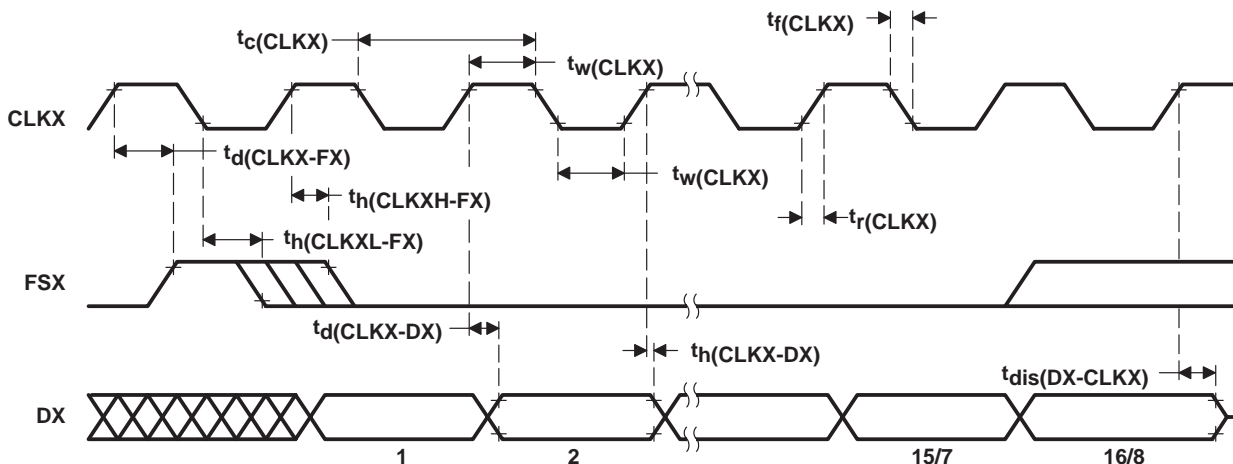

Figure 20. Serial-Port Transmit Timings
**switching characteristics over recommended operating conditions [ $H = 0.5t_{c(CO)}$ ] (see Figure 20)**
timing requirements over recommended ranges of supply voltage and operating free-air temperature [ $H = 0.5t_{c(CO)}$ ] (see Figure 20)